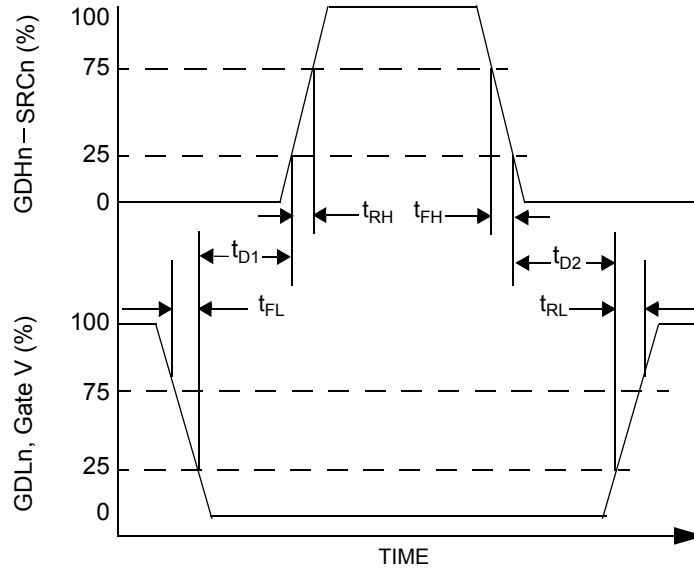

Figure 2. Shoot-Through Suppression
- See Figure 2, page 9.
The control logic block controls when the low-side and high-side drivers are enabled. The logic implements the Truth Table found in the specification and monitors the M0, M1, PWM, CL, OT, OV, LSE, and HSE terminals. Note that the drivers are enabled 3 μs after the PWM edge. During complimentary chop mode the high-side and low-side drives are alternatively enabled and disabled during the PWM cycle. To prevent shoot-through current, the high-side drive turn-on is delayed by t_{D1} , and the low-side drive turn on is delayed by t_{D2} (see Figure 2, page 9).